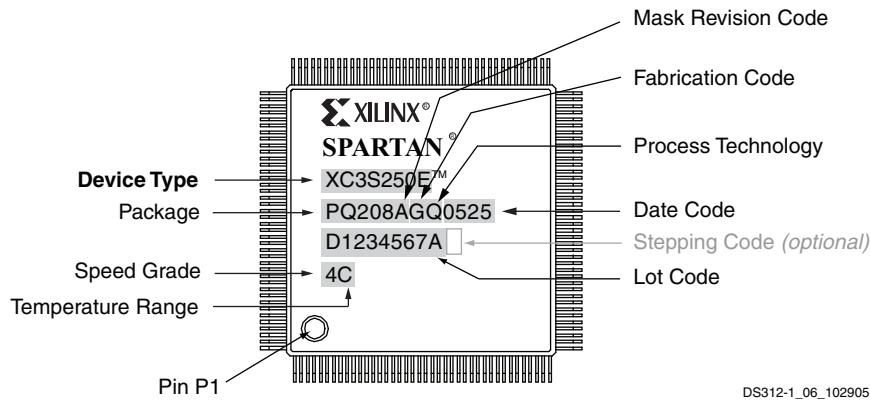
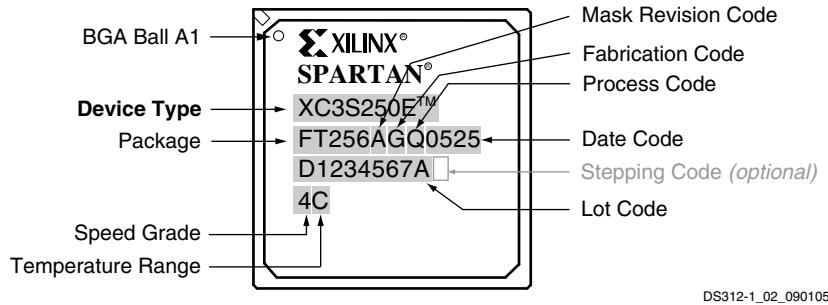
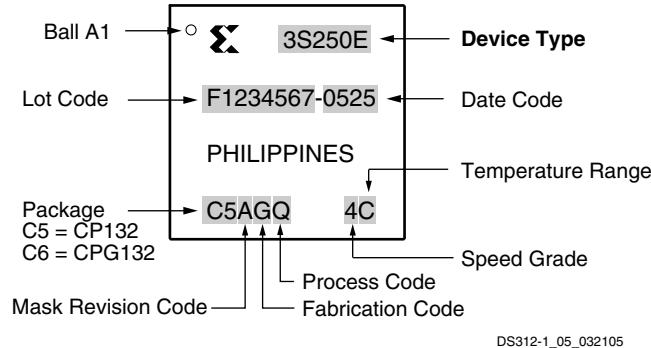

Figure 2: Spartan-3E QFP Package Marking Example
Figure 3: Spartan-3E BGA Package Marking Example
Figure 4: Spartan-3E CP132 and CPG132 Package Marking Example
**Figure 2** provides a top marking example for Spartan-3E FPGAs in the quad-flat packages. **Figure 3** shows the top marking for Spartan-3E FPGAs in BGA packages except the 132-ball chip-scale package (CP132 and CPG132). The markings for the BGA packages are nearly identical to those for the quad-flat packages, except that the marking is rotated with respect to the ball A1 indicator. **Figure 4** shows the top marking for Spartan-3E FPGAs in the CP132 and CPG132 packages.